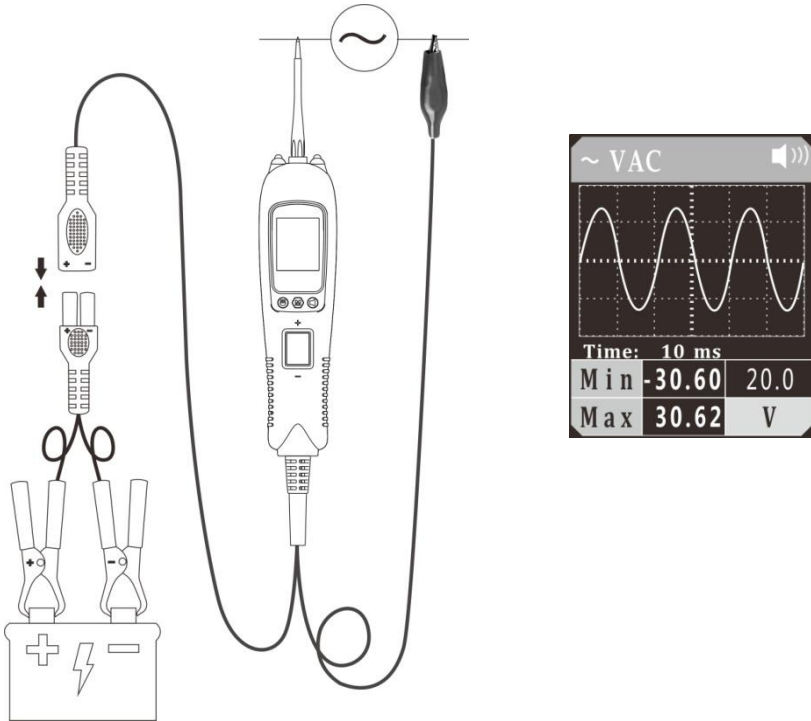

Figure 4
- 3) The auxiliary ground wire is connected to one end of the circuit under test, and the probe contacts the other end of the test circuit. The LCD display will read the maximum and minimum voltage value (Figure 4), and display the signal waveform in real time. You can adjust the sampling frequency by pressing the Up/Down Button.
- 4) In Figure 4, “time: 10 ms” is the time interval indicated by each large grid. This time reading will change with the sampling frequency.